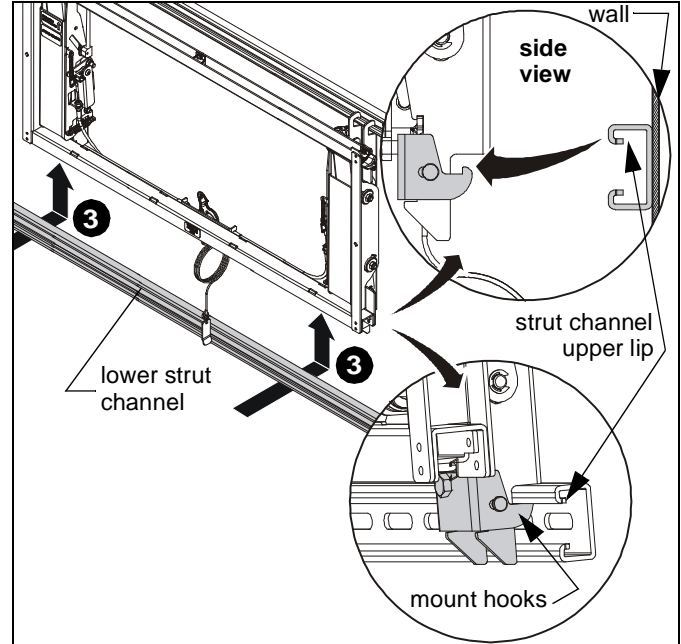

Figure 8
3. **LVSXU only:** Add lower strut channel to bottom of all mounts in row by lifting strut channel up from below mounts and setting upper lip of strut channel onto mounts' latching hooks. (See Figure 8)
4. Tighten two hex head fasteners at bottom of each mount. (See Figure 8)